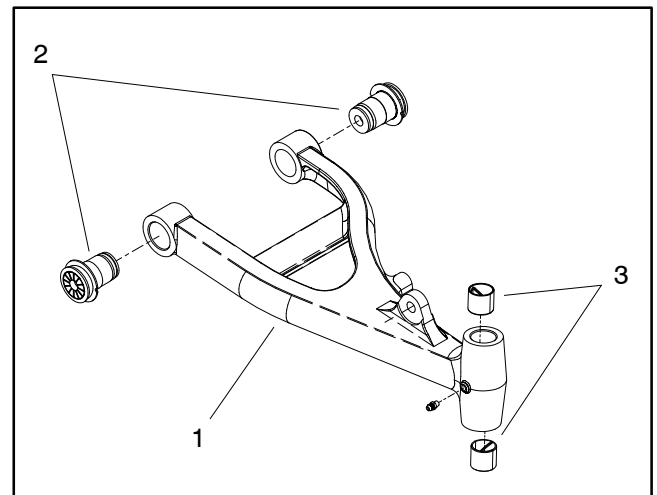

Figure 19
4. Remove cap screw (item 7), flat washer (item 5) and lock nut (item 6) that secure lower end of shock absorber to A-arm.
6. Remove both cap screws (item 19) and lock nuts (item 6) that secure A-arm to frame. Pull A-arm from frame.
7. If necessary, remove flange bushings and straight bushings from A-arm bores (Fig. 19).
1. If bushings were removed from A-arm, press new bushings fully into bore of A-arm (Fig. 19).
2. Position A-arm to the frame. Secure A-arm to the frame with cap screws (item 19) and lock nuts (item 6). Insert front screw from front of machine and rear screw from rear of machine. Do not fully tighten nuts.
3. Position lower end of shock absorber to A-arm and insert cap screw (item 7) with flat washer (item 5) from rear of shock. Secure with lock nut (item 6).
4. Fully tighten lock nuts (item 6) to secure A-arm to machine frame.